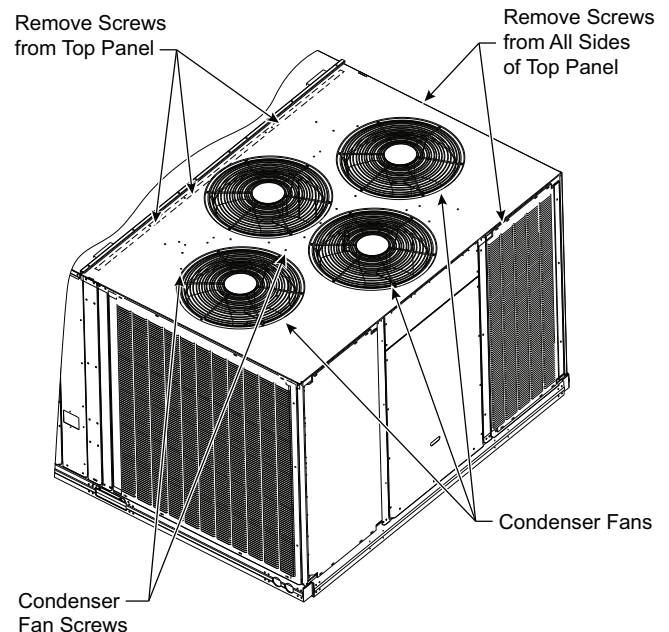

Fig. 17 — Location of Top Panel Screws and Coil Corner Post
2. Remove all screws from the top panel except the screws securing the condenser fan to the top panel. See Fig. 17.